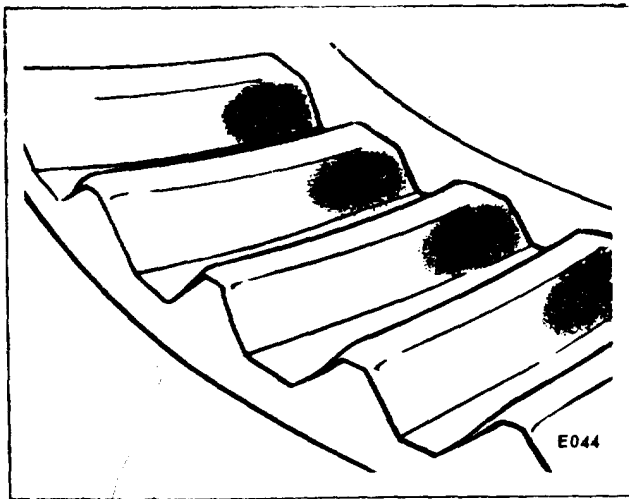

Figure 21.
4. Figure 21 shows short contact at toe. To correct, move gear away from pinion. Then move pinion toward gear to again secure correct backlash.